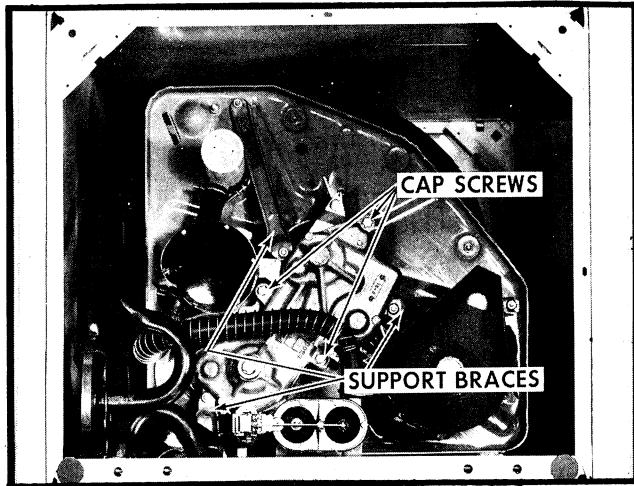

Figure 133
- 7) Remove the cap screws and spacer that fasten the gear case and superstructure assembly to the base plate, *Figure 133*.